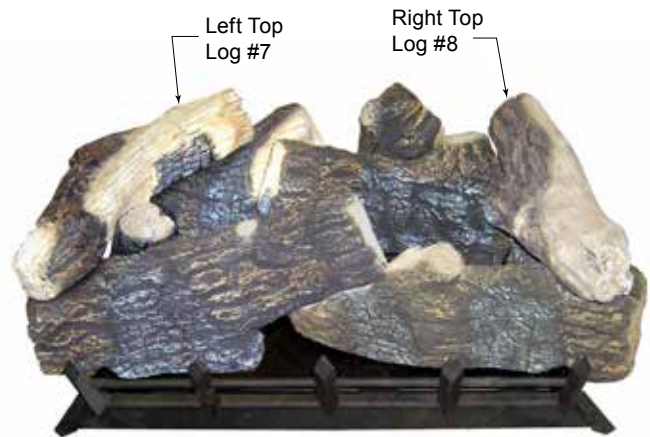

Figure 32 -
7. Place left top log (#7) on left rear log (#4) and left front log (#5) using locating grooves on bottom of #7 and locating blocks on logs #4 and #5. *Figure 32*
8. Place right top log (#8) onto right rear (#3) and right front (#2) logs using locator on bottom of right top log. *Figure 32*